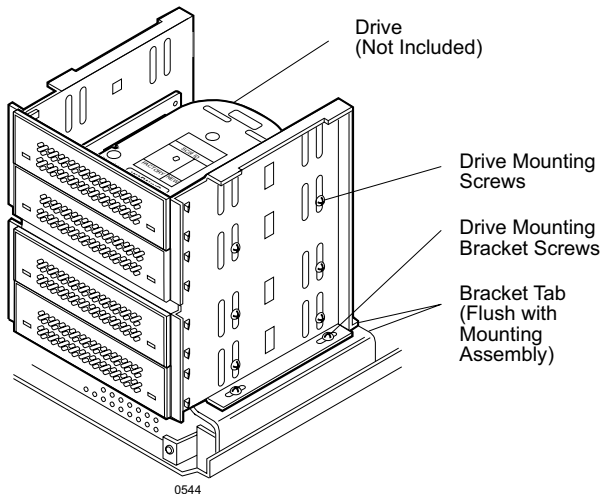

Figure 14: Installing the Drive into the DS100 4-Bay Drive Mounting Bracket
3. Install the drive(s) into the drive mounting bracket using four (4) #6-32 Phillips screws (Figure 14). Do not fully tighten the screws.
4. Adjust the drive bracket and drive clearances. In most cases, if the bracket tab (Figure 14) is flush with the DS100 mounting base, no bracket adjustment will be necessary for the drive bezel or filler panel to align with the DS100 cover.